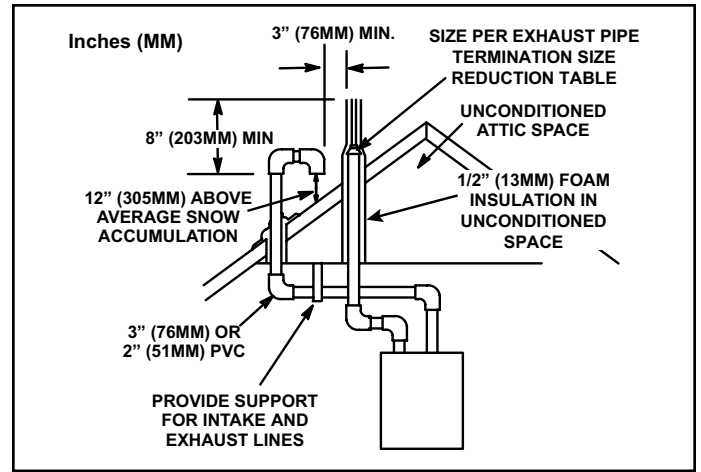

Figure 30. Direct Vent Roof Termination Kit 15F75 or 44J41
Intake and exhaust pipes may be routed either horizontally through an outside wall or vertically through the roof. In attic or closet installations, vertical termination through the roof is preferred. Figure 30 through Figure 37 show typical terminations.
- On roof terminations, the intake piping should terminate straight down using two 90° elbows (See Figure 30).